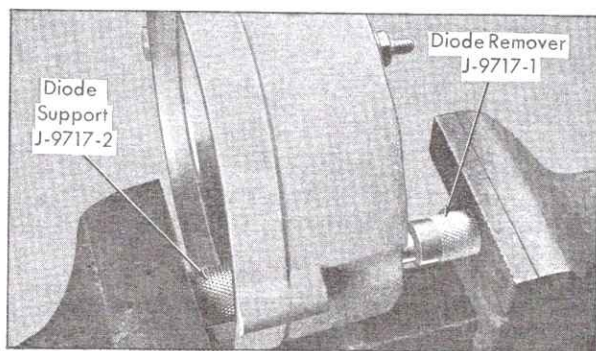

Fig. 6-39 Diode Removal
4. If necessary to replace diode, support inside of end frame or heat sink with Diode Support, J-9717-2, and press out diode with Diode Remover, J-9717-1, and a vise, Fig. 6-39.